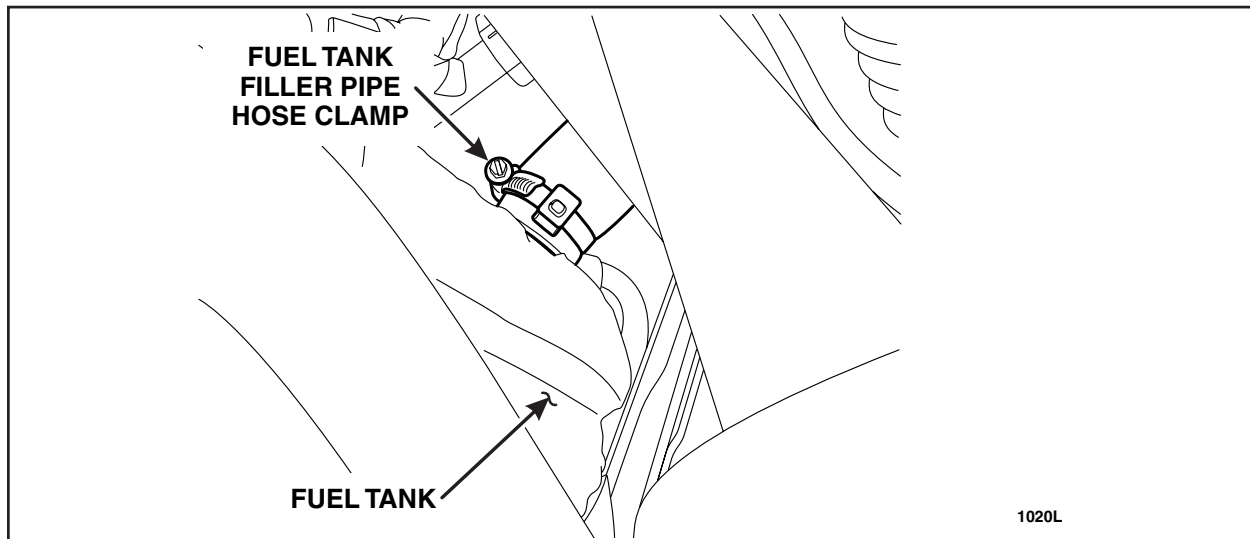

FIGURE 1
Release the fuel tank filler pipe hose clamp and disconnect it from the fuel tank. See Figure 1.
49. Connect the fuel tank filler hose to the fuel tank filler pipe and tighten the hose clamp. See Figure 1.